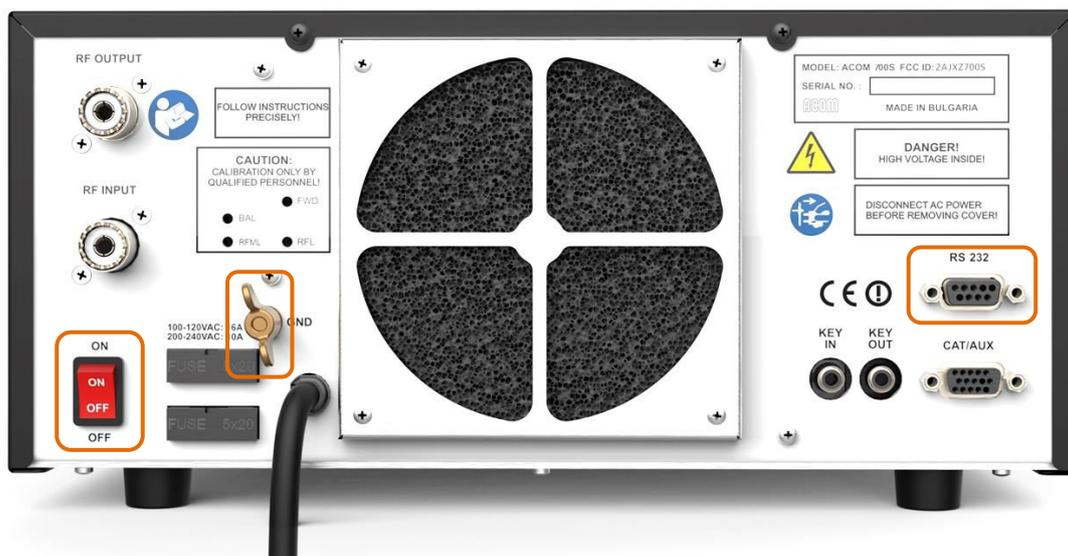

Figure 7-8 | Rear panel – RS-232 port
- Connect the amplifier to the PC via RS-232 interface on the rear panel of the amplifier (see Figure 7-8 | Rear panel – RS-232 port).